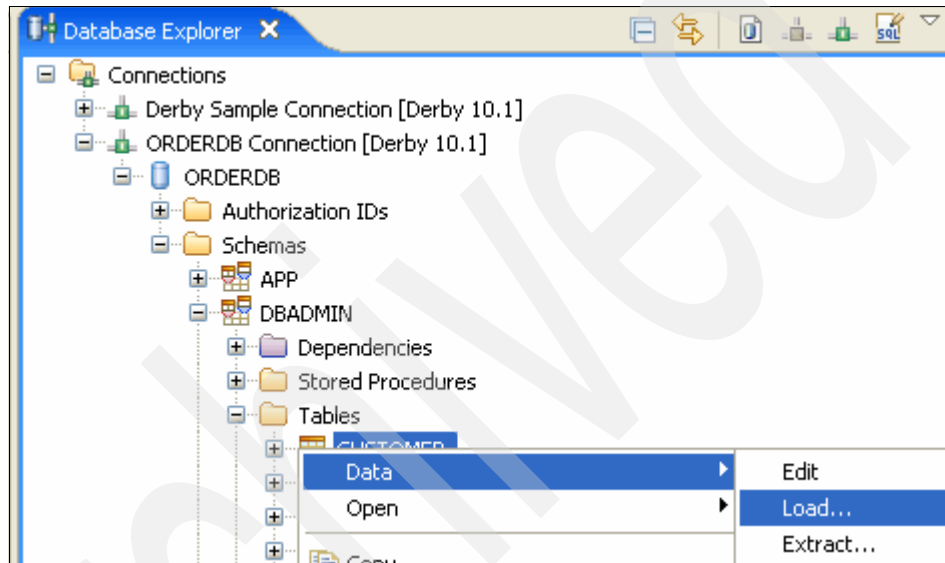

Figure A-7 Load data into the table
2. Select the Customer table, right-click, select **Data** from the pop-up menu, and select **Load** as shown in Figure A-7.